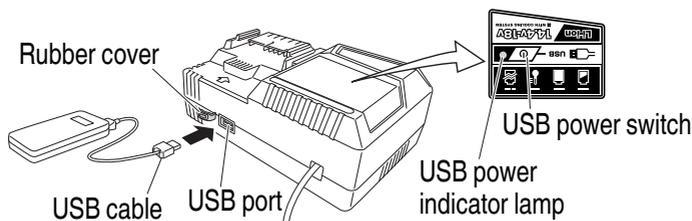

Fig. 7
- (2) Turn the USB power switch ON (**Fig. 7**)
- (3) Connect the USB cable. (**Fig. 7**)
- Turn the USB power switch OFF and unplug the power cord from the electrical outlet. (Fig. 7 on page 41)